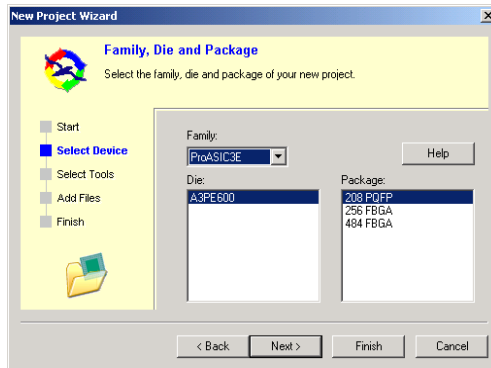

Figure 3-2. Select Family, Die, and Package
5. Select your project **Family, Die, and Package**. For this tutorial, select **ProASIC3E**, the **A3PE600** die, and **208 PQFP** for your package (Figure 3-2).